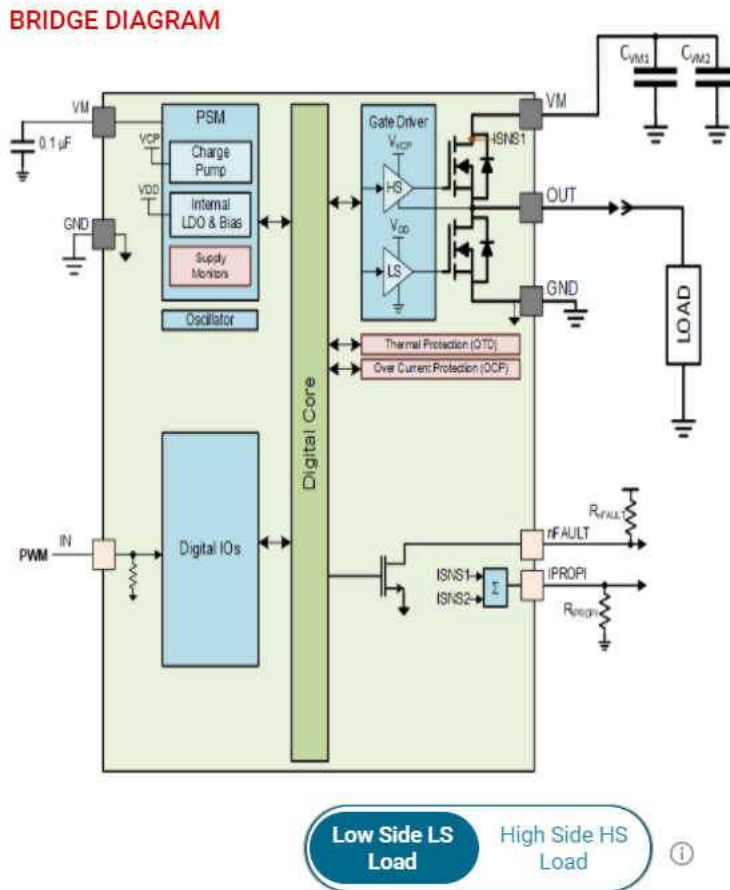

Figure 4-6. DRV814x High Side and Low Side Connections
- **MODE** Programs the S_MODE register and will alter the appearance of the **BRIDGE CONTROL** depending on your selection. There is a difference in **MODE** options between the DRV824x and DRV814x device families. The DRV814x devices only operate in one fixed mode where the user can only switch between high side and low side load connections. The high side connection connects the load between VM and OUT while the low side connection connects the load between OUT and GND as can be seen in Figure 4-6
- **MODE** In Hardware variant, mode change must occur through jumpers while the GUI **WAKE** control is Asleep. See Figure 2-8. Level 1 is PH/EN Mode, Level 2 is Independent Half-Bridge Mode, and Level 4 is PWM mode, as can be observed in the device datasheet. For Level 4, there is no jumper. The jumper settings for these Mode changes may be observed in Section 2.4. For Independent Half-Bridge Mode, the user **must** correctly connect for either High-Side Load or Low-Side Load as can be observed in Figure 4-6.